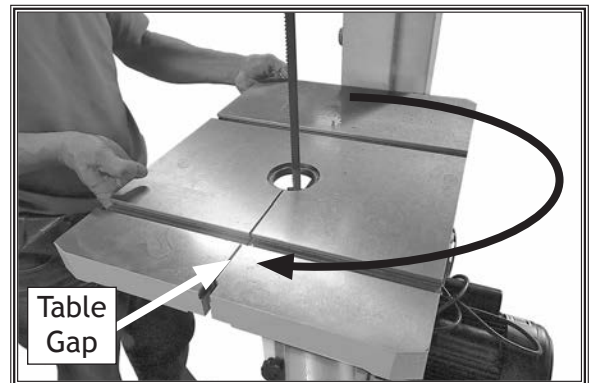

Figure 21. Table rotated with gap facing to the right.
4. Carefully position table so gap faces to right (see **Figure 21**).